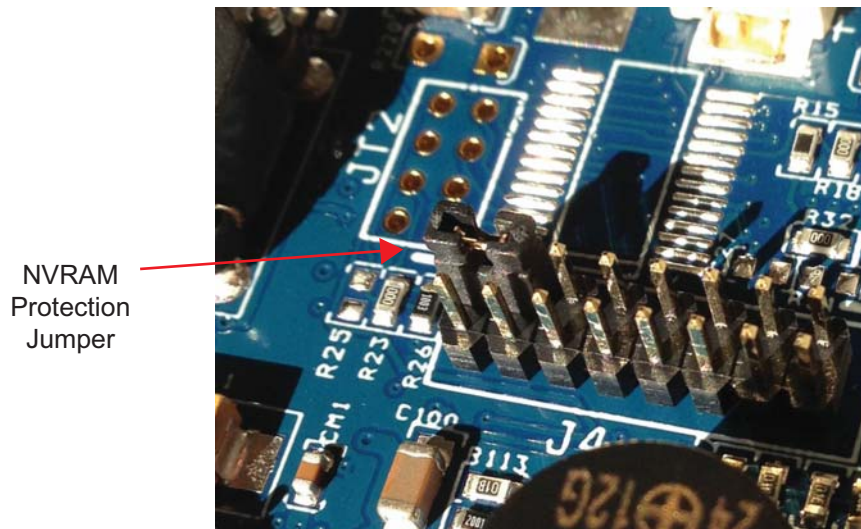

Figure 3-16. NVRAM Protection Jumper
STEP 10: Locate the J4 jumper block on DNx-POWER-1GB board removed in the previous step. Refer to **Figure 3-16** for jumper block location.
STEP 11: Insert jumper between pins 13 and 15 on J4 jumper block. Refer to **Figure 3-16**.